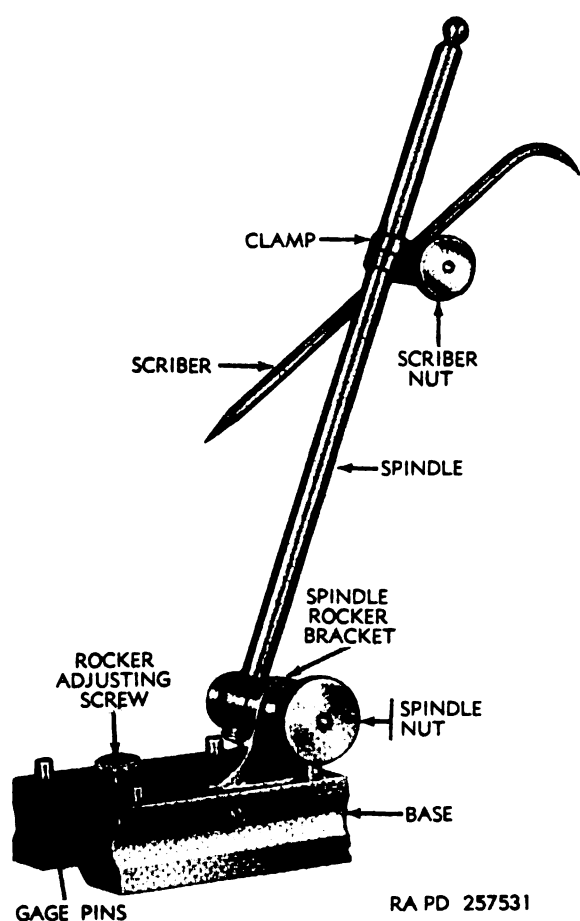

Figure 61. Surface gage.
(figs. 61, 62, and 63)
The surface gage (fig. 61) consists of a base with an adjustable spindle to which may be clamped a scriber, or an indicator. Surface gages are made in several sizes and are classified by the length of the spindle, the smallest spindle being 4 inches long, the average 9 or 12 inches, and the largest 18 inches. The scriber is fastened to the spindle with a clamp. The bottom and the front end of the base of the surface gage have deep V-grooves cut in them which allows the gage to measure from a cylindrical surface. The base also has two gage pins for use against edge of surface plate or slot.
a. Adjustments. The spindle may be adjusted to any position with respect to the base and tightened in place with the spindle nut (fig. 61). The rocker adjusting screw provides for the finer adjustment of the spindle by pivoting the spindle rocker bracket. The scriber can be positioned at any height and in any desired direction on the spindle by tight-
- (c) The gage pins (fig. 61) in the base permits the surface gage to be used against the edge of a machine table or of a surface plate in laying out and lining up work. The pins are pushed down to bear against the edge of the table or of the surface plate and the gage is moved along the edge to scribe a line.